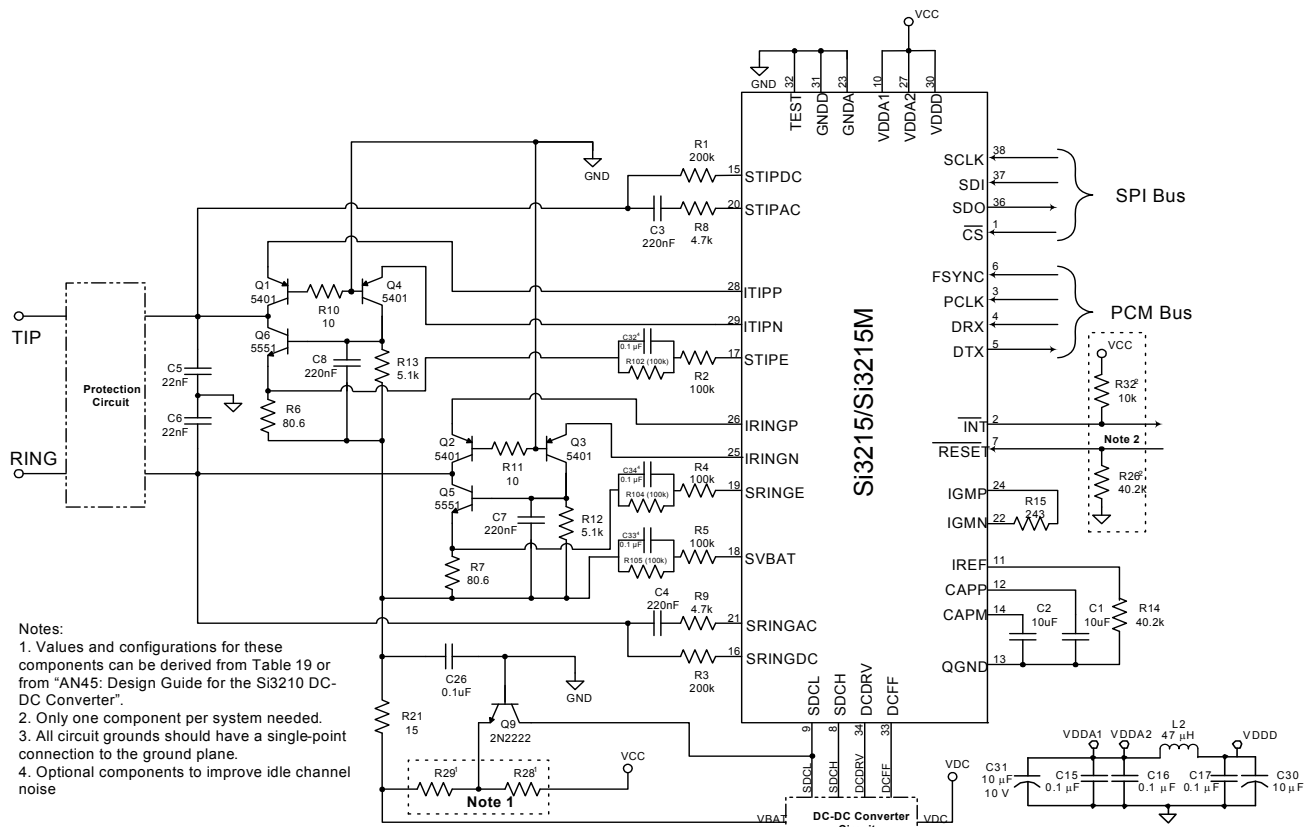

Figure 12. Si3215/Si3215M Typical Application Circuit Using Discrete Components
The ProSLIC[®] is a single, low-voltage CMOS device that provides all the SLIC, codec, and signal generation functions needed for a complete analog telephone interface. The ProSLIC performs all battery, overvoltage, ringing, supervision, codec, hybrid, and test (BORSCHT) functions. Unlike most monolithic SLICs, the Si3215 does not require externally-supplied high-voltage battery supplies. Instead, it generates all necessary battery voltages from a positive dc supply using its own dc-dc converter controller. Two fully-programmable tone generators can produce DTMF tones, phase-continuous FSK (caller ID) signaling, and call progress tones. The Si3201 linefeed interface IC performs all high-voltage functions. As an option, the Si3201 can also be replaced with low-cost discrete components as shown in the typical application circuit in Figure 12.
- External resistors R8 and R9 are changed from 470 Ω to 4.7 k Ω . See the typical application circuit in Figure 12.